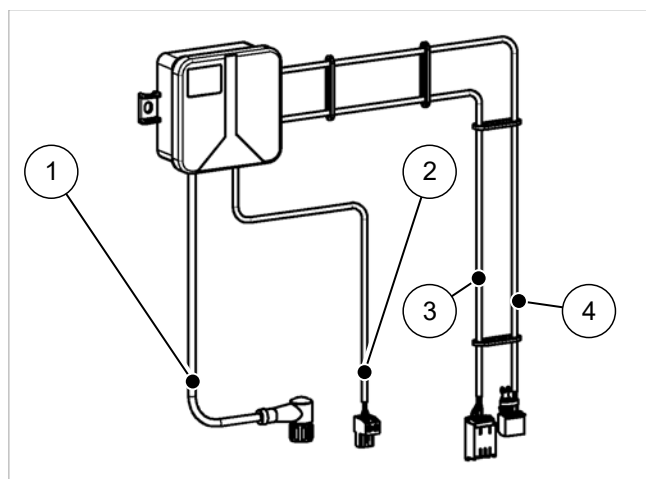

Fig. 13: Volume flow sensor connection box
1. Extend cable 1 (3, see → fig. 13) to the heating pump and connect it there.
2. Extend cable 2 (4, see → fig. 13) to the Modbus junction box.